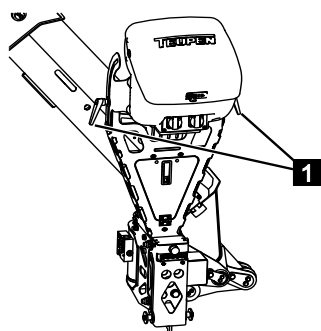

Fig. 225
2. Release the arrester lever (Fig.225/1).